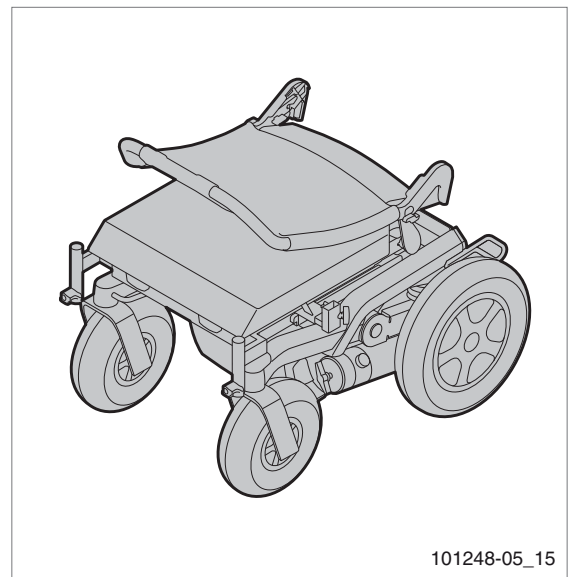

Figure 12
*Parts of the wheelchair that can easily be detached should be removed when transporting the wheelchair (figure 12) ( Seating system).*